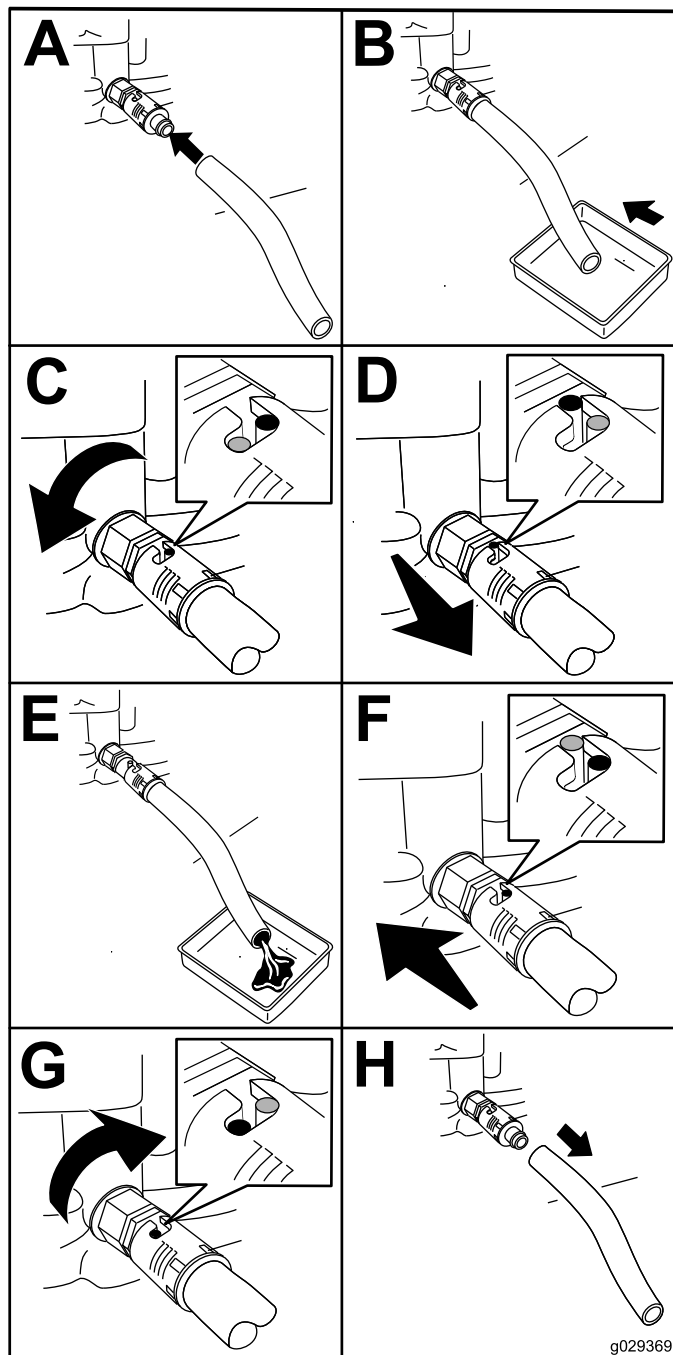

Figure 42
- Drain the oil from the engine (Figure 42).